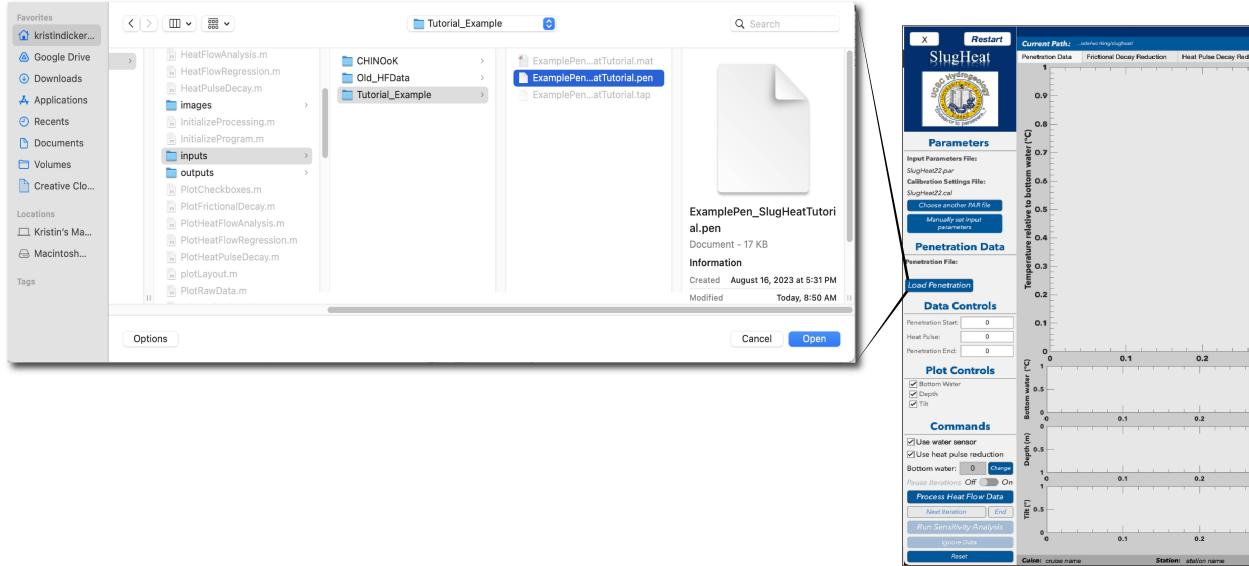

Figure 4: *SlugHeat* example pop-up window to select a PEN file that will be used to load the penetration into the program.
Though PEN, TAP, and MAT files are all created in *SlugPen*, the minimum requirement for processing data in *SlugHeat* is a PEN file or a MAT file. *SlugHeat* will first ask you to select a PEN file that defines the penetration. Corresponding TAP and MAT files for that penetration will also be loaded in automatically if they exist in the same directory. If they do not exist, *SlugHeat* can still process temperature data recorded by a PEN file alone. In this example, penetration `ExamplePen_SlugHeatTutorial` is loaded using PEN, TAP, and MAT files (See Figure 4).
2. Select a **PEN file** in the pop-up window (Figure 4), which defines data from a single penetration.